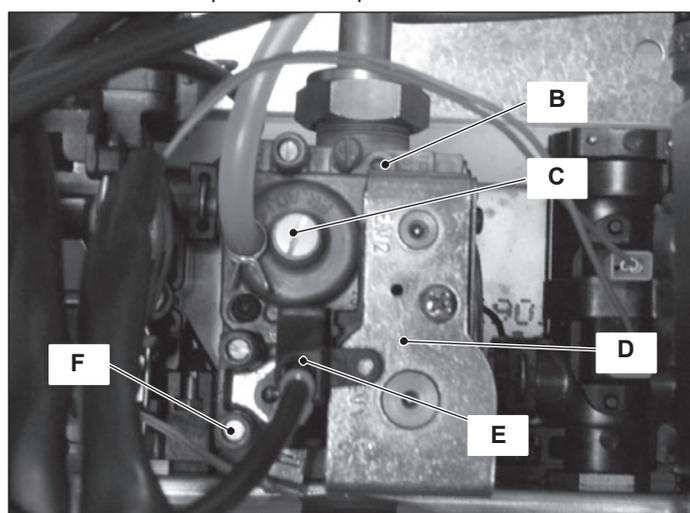

Figure 11.2
- (Figure 11.2)
- 3 Loosen the internal screw on the Inlet Pressure Test Point F (Figure 11.2) of the Gas valve and connect a pressure gauge using a suitable hose.
- 10 Disconnect the pressure gauge and close the Inlet Pressure Test Point F (Figure 11.2).
21 Read the CO2 % value. It should be between 9,0 and 9,8 % (natural gas G20) or between 10,0 and 11,0 % (LPG G31). To adjust the CO2 % value remove the brass plug by unscrewing it and rotate the Allen key screw  $\varnothing$  4 mm (C - Figure 11.2) (by rotating it clockwise the CO2 % increases).
24 Read the CO2 % value. It should be between 9,0 and 9,8 % (natural gas G20) or between 10,0 and 11,0 % (LPG G31). To adjust the CO2 % value rotate screw (B - Figure 11.2) (by rotating it clockwise the CO2 % decreases).
27 After adjustment fit the protective brass plug (C - Figure 11.2).
- 2 Disconnect the electrical connector E (Figure 11.2).